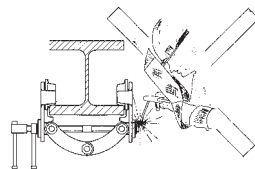

Fig. 4
- Welding on beam clamp with integral trolley is strictly forbidden (see fig. 4).